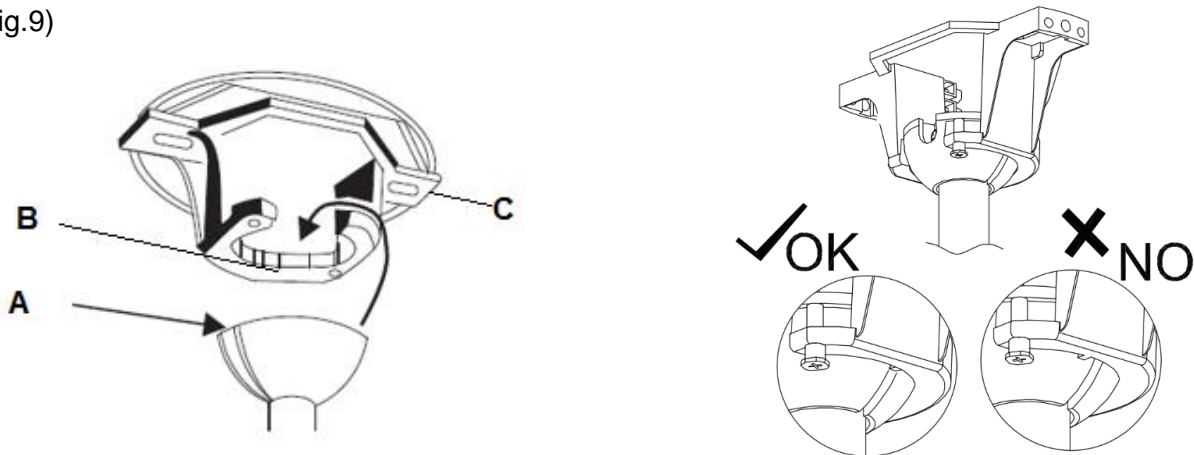

Fig. 9
Lift the fan assembly onto the mounting bracket. Ensure the registration slot (A) of the hanger ball is positioned on the stopper (B) of the mounting bracket (C) to prevent the fan from rotating when in operation. (Fig.9)